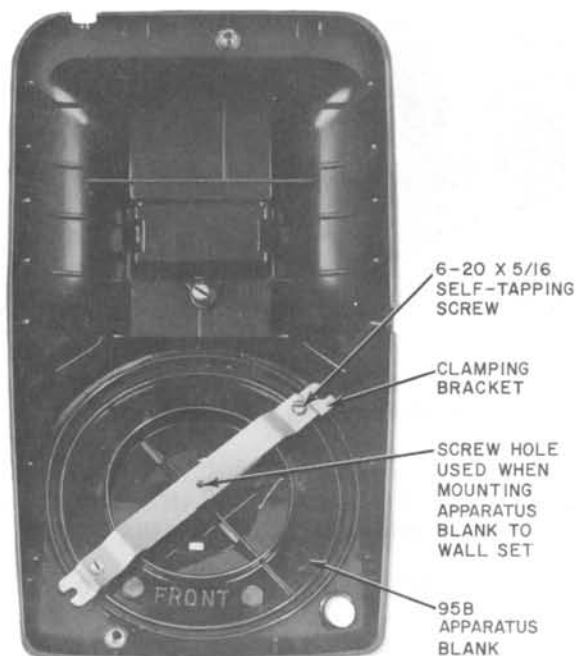

Fig. 10—95B(MD) Apparatus Blank Mounted in Desk-Type Telephone Set
- 95B (MD)—Place as shown in Fig. 10 and 11. Brackets must be inverted in 558-type telephone sets.